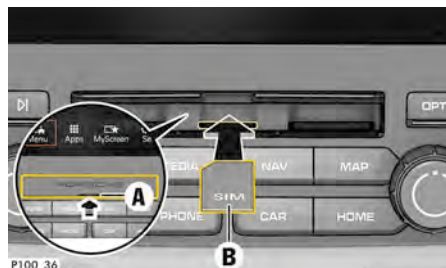

Fig. 146: Inserting and removing an external SIM card
- ✓ SD and SIM card reader cover **A** (Fig. 146) open.
1. Insert external SIM card **B** (Fig. 146) (mini-SIM, dimensions: 25x15 mm). The missing corner must be pointing front left with the chip facing down.